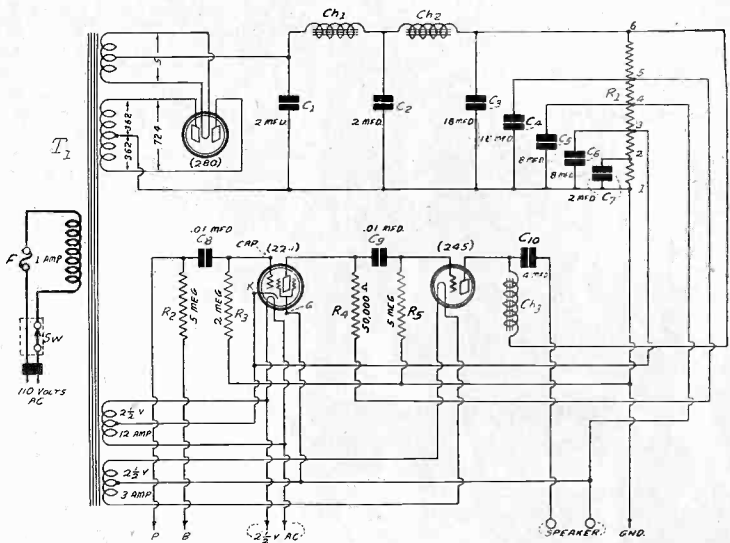
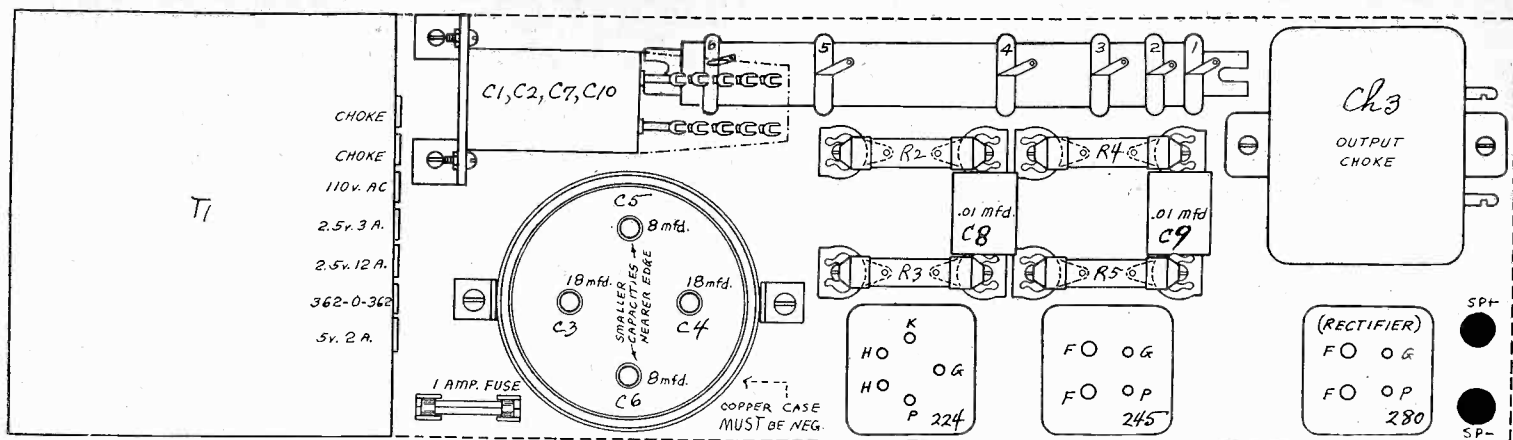

FIG 1
FIG. 2
The circuit diagram is shown in Fig. 1 and the suggested layout of parts is illustrated likewise (Fig. 2), so that no difficulty will be experienced in following the pattern and conforming all the parts to the space requirements.
drawn, that is, the number of tubes in the tuner, as the rest of the plate current is of fixed value. At a maximum of 80 milliamperes flowing in the voltage divider, between points (3) and (1), the voltages would be 250 for the 245 tube (6) in Fig. 1; 180 volts for the plates of all other tubes, except possibly the rectifier (5); 50 volts for the screen grids of 224 tubes, or for the detector voltage additionally, if leak-condenser detection is used (4); a positive connection for all cathodes except the detector cathode in some instances (3); a point for providing the unusual positive cathode voltage of .5 volt, for negatively biasing a space charge detector (2); and a negative lead (1), to which all grid returns are made.
The detector would be connected with plate to the lead marked "P" in Fig. 1, while the detector's plate voltage would be obtained by connecting the adjoining "B" lead to a suitable voltage point on the divider. No connection is shown to "P" because the detector tube is in an independent circuit, one the experimenter will choose, while the "B" connection is omitted mainly because different voltages are required for different types of hook-ups (power detection and leak-condenser detection.)
The 2.5 volt leads to serve the tuner tubes are brought out as unconnected wires, as these will be soldered to the heater terminals of one of the tuner tubes and the connections carried along by additional wires to the rest of the tuner tubes. The ground connection likewise is brought out "loose," this being the negative lead of the B supply, and going to the ground post of the tuner. The "P" and "B" connections, shown at lower left in Fig. 1, have been discussed. The only fixed outlets therefore are for speaker connections. A pair of binding posts, shown at extreme lower right in Fig. 2, serve this purpose.
While the .5 volts biasing point may not be used by the experimenter, the condenser C7 should be included nevertheless, being connected instead in parallel with C2, by moving the "high" connection of C7 to the midsection of the choke system. If ever the .5 volt point is desired, for experimental or other purposes, the condenser should be connected back the former way, as shown in Fig. 1.